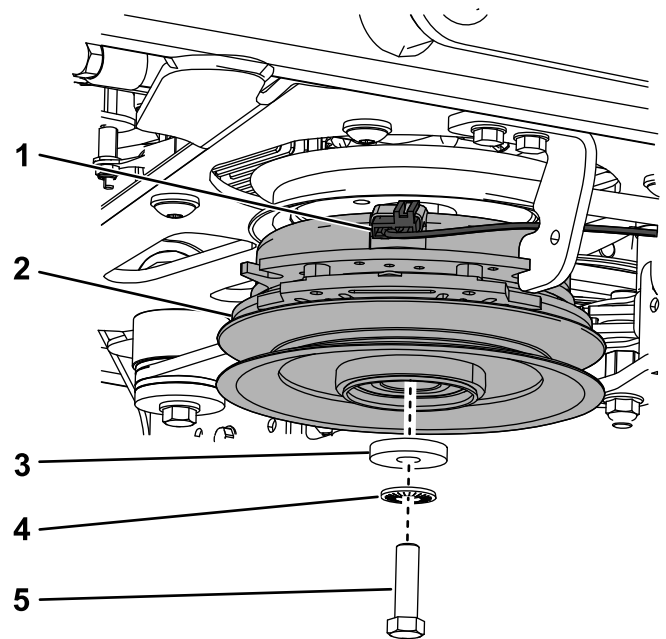

**Figure 88**
5. Remove the 2 bolts, 2 nuts, and washer connecting the mower-deck hangers to the lift plates for both sides of the mower deck (Figure 87 and Figure 88).
**Note:** Mount the front hanger brackets on the outside of the front lift arms for 52-inch decks (Figure 87). Mount the front hanger brackets on the inside of the front lift arms for 60-inch decks (Figure 88).